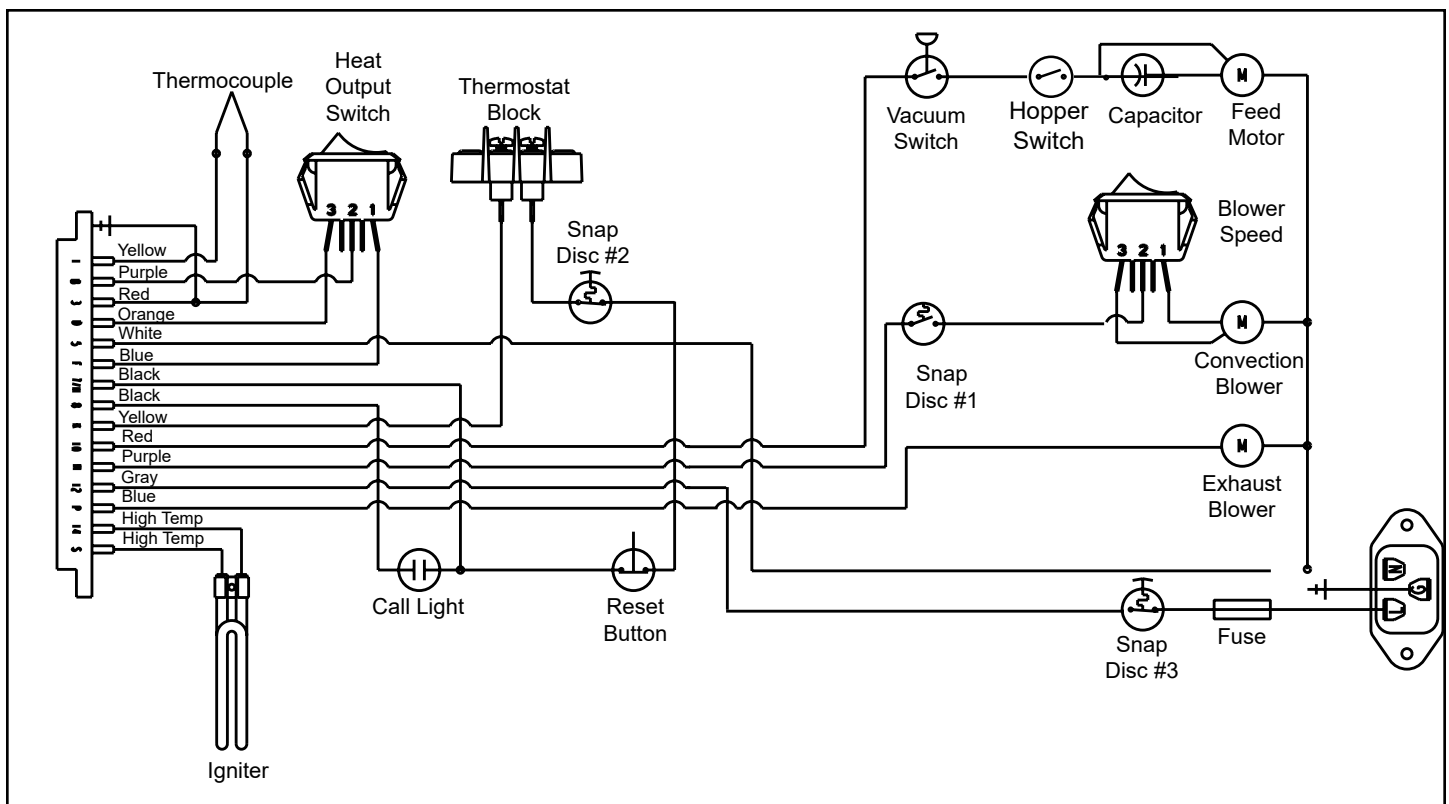

Figure 30.1
21. **Wiring Harness:** See **Figure 30.1** below